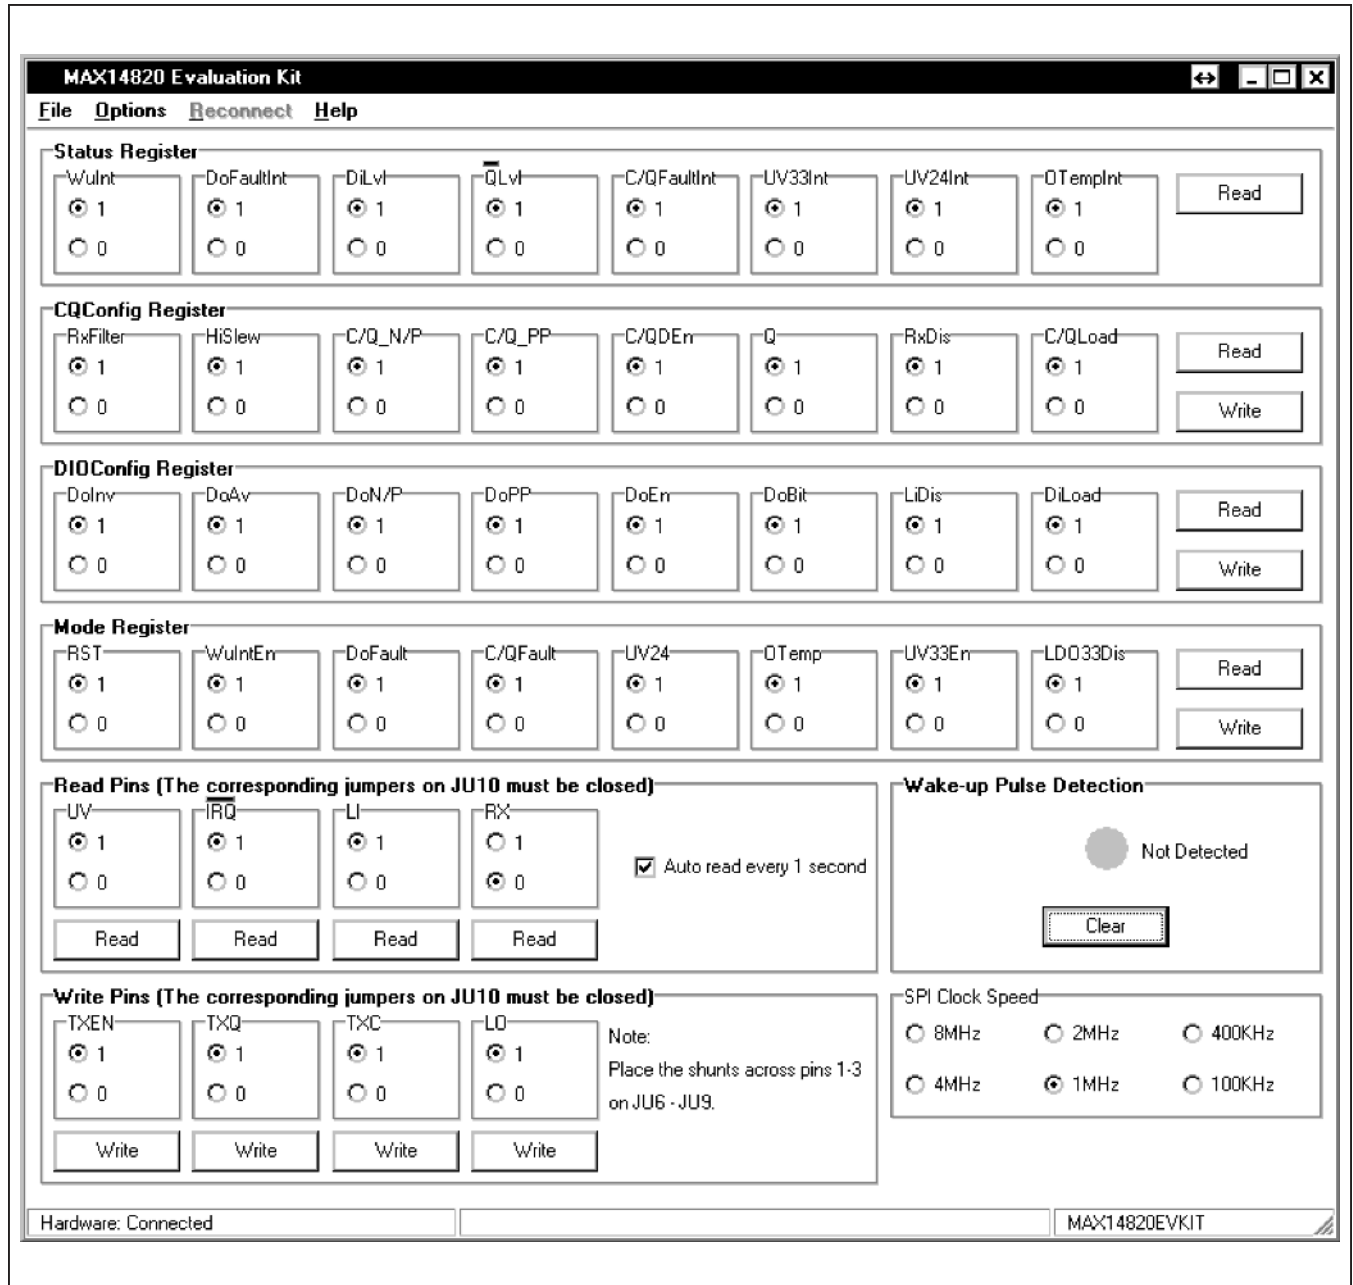
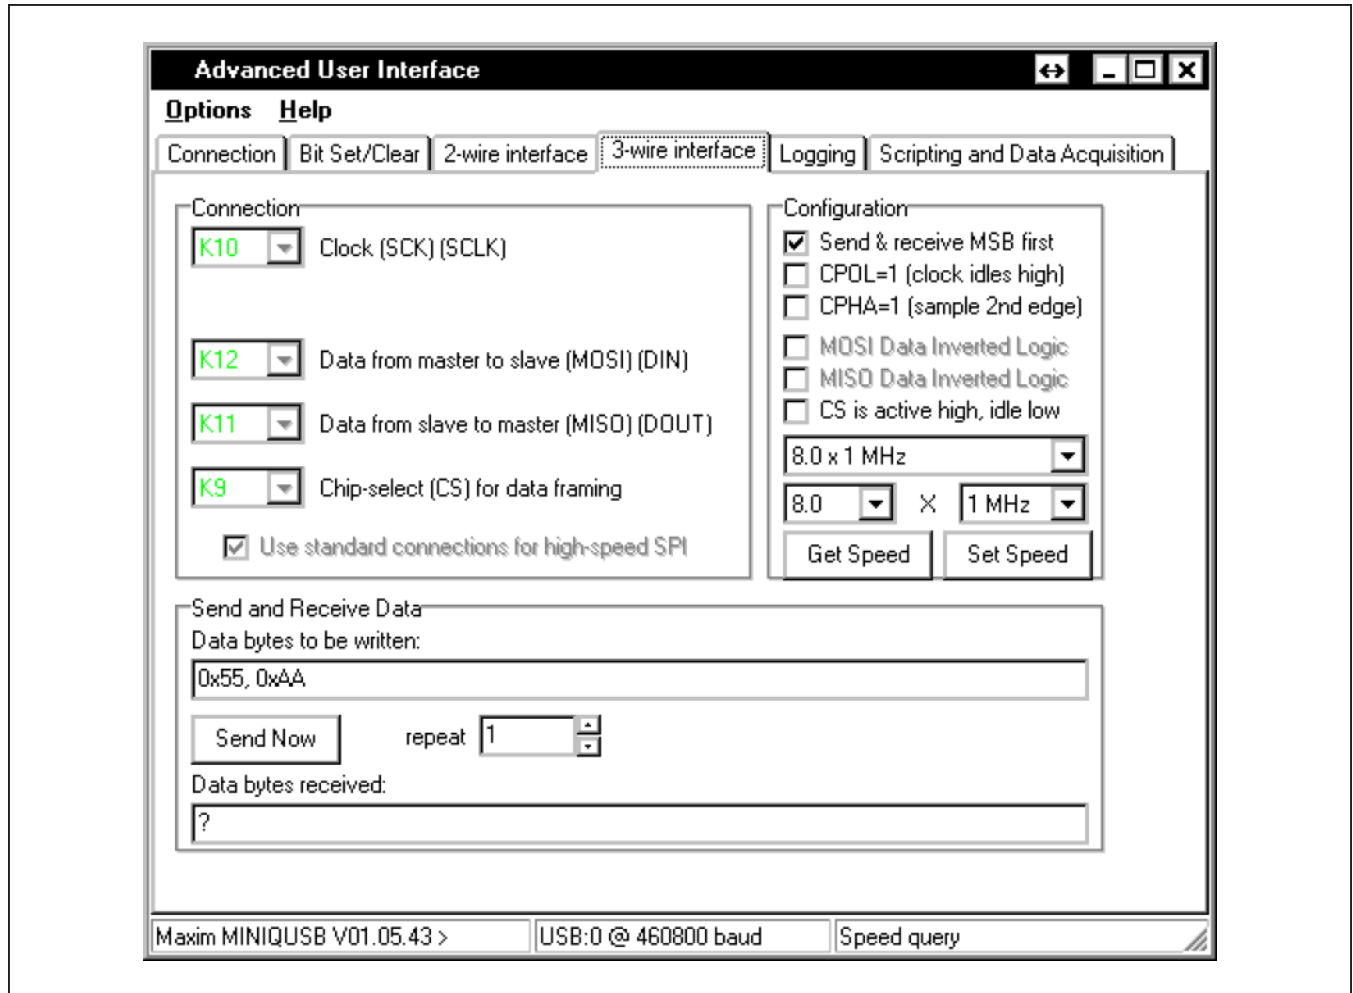

Figure 1. MAX14820 EV Kit Software Main Window
Figure 2. MAX14820 EV Kit Software Advanced User Interface Window
- 6) Start the EV kit software by opening its icon in the Windows **Start | Programs** menu. The EV kit software main window appears, as shown in Figure 1.
The main window of the evaluation software (Figure 1) displays the SPI registers and the device pins that are connected to the on-board MAXQ2000 microcontroller. The user can send read or write SPI commands to the device, configure the logic levels of the device input pins, and read back the logic levels of the device output pins.
There are two methods for communicating with the device. The first is through the window shown in Figure 1. The second is through the **Advanced User Interface** window shown in Figure 2. The **Advanced User Interface** window becomes available by selecting the **Options | Interface (Advanced User)** menu item and allows execution of serial commands manually.